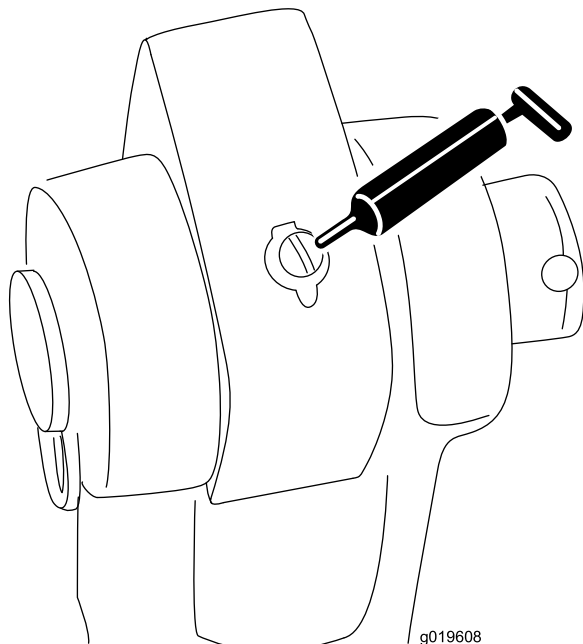

Figure 20
- Cylinder pivots (Quantity 2)—Figure 20